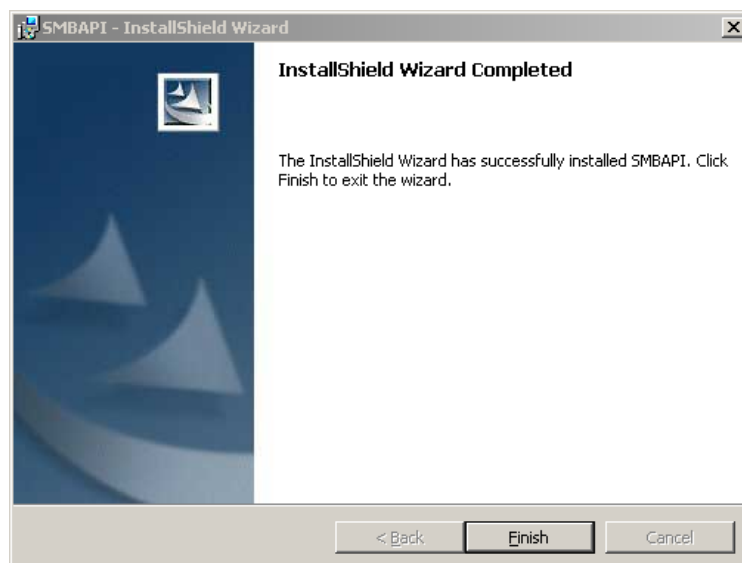

Figure 8-41: Installation Complete
Step 11: When the driver installation is complete, the screen in **Figure 8-41** appears.